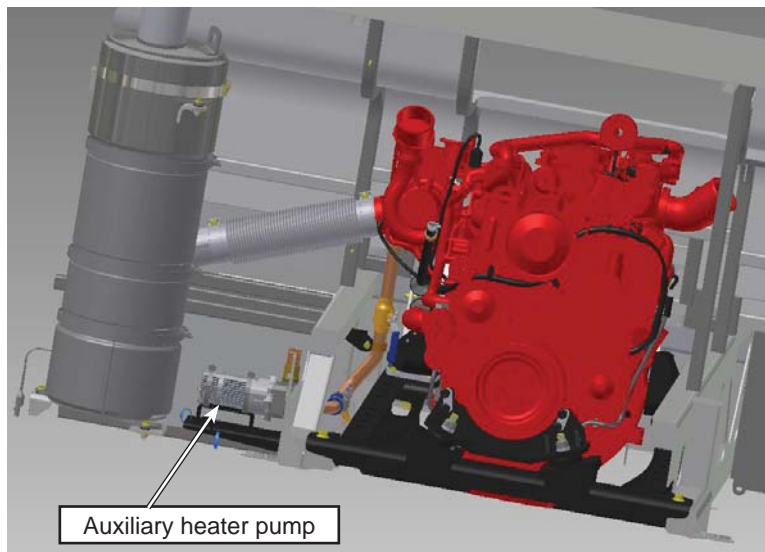

Figure 1 - Auxiliary Heater Pump Location
- 1.3. Locate the auxiliary heater pump. See Figure 1.